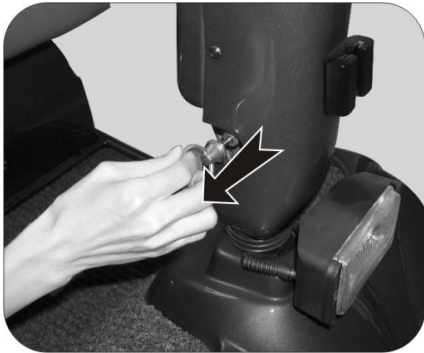

FIGURE 5.13
5.13.1.1 Pull and hold the adjustment ring away from the adjustment plate. (See Figure 5.13)